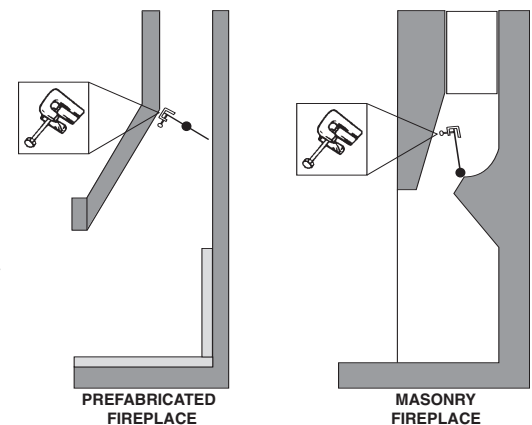

Figure 2. Damper Stop Clamp
- B. Open fireplace damper fully and install Damper Stop Clamp with 1/4 x 2" set screw (Part # 9). This clamp is designed to prevent accidental closure of the damper while in use. (See Figure 2)